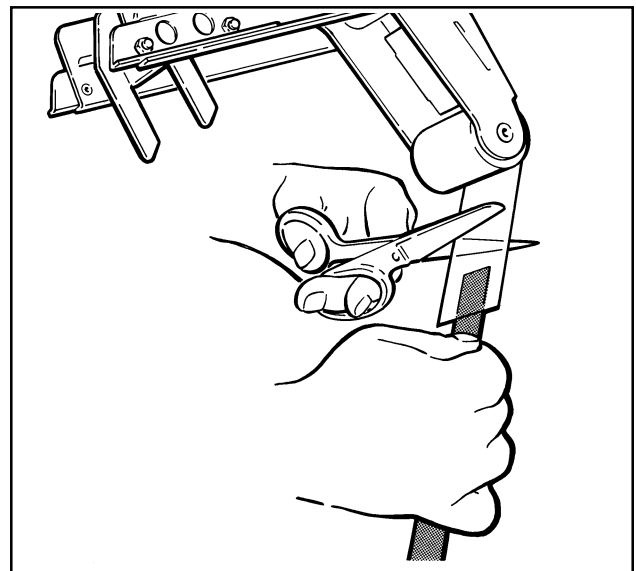

Figure 3-5—Cut Excess Tape
5. Excess tape may be cut with a scissors at the applying roller as shown in Figure 3-5.